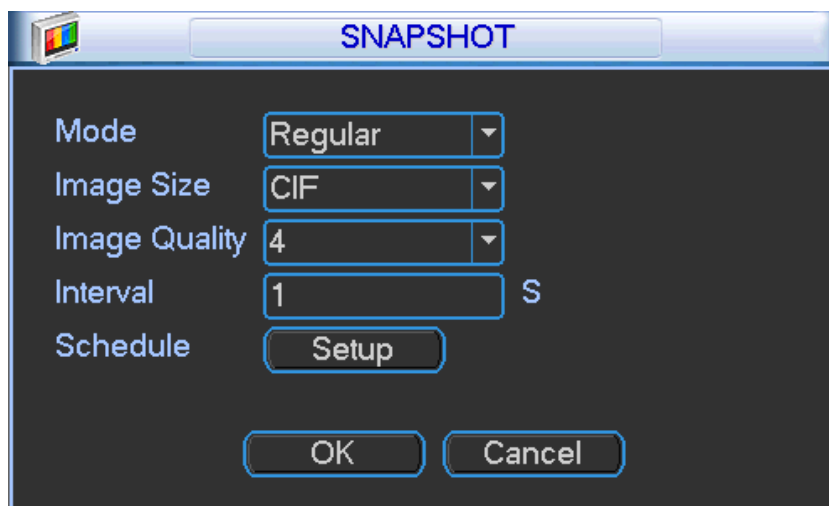

Figure 4-37
- Snapshot: Click snapshot button, you can set snapshot mode, picture size, quality and frequency. See Figure 4-37.